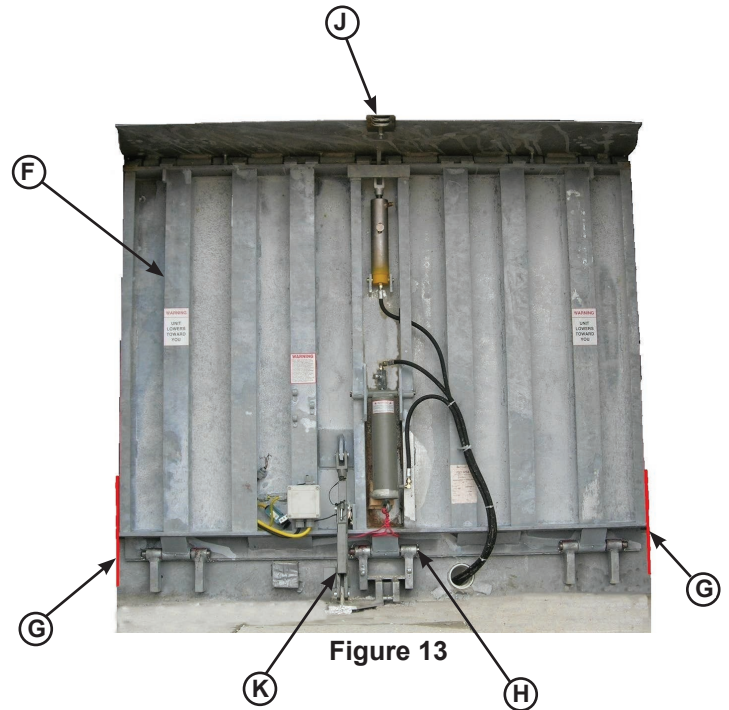

Figure 13
5. Lube the three rear hinge pins (H) using grease, then install the three pins in the rear embed only halfway through the first hinge tube.
- Insert the hinge pins. Work across the dock leveler, installing one side, then the center, and finally the other side. See Figure 13.